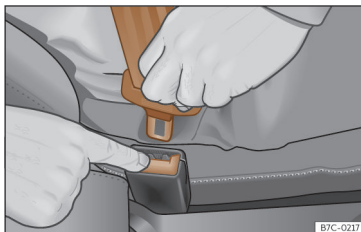

Fig. 21 Release the seat belt's latch plate.
- Press the red button on the buckle >>> **Fig. 21.** The latch plate is released from the buckle.